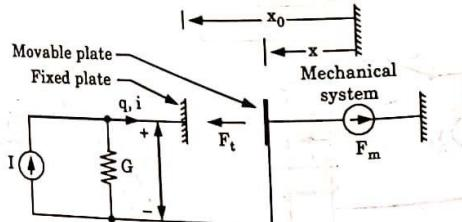

Fig. 1.10.1. Electric field electromechanical device.
- Fig. 1.10.1 shows a parallel plate condenser with a fixed and a movable plate. The condenser is fed from a current source.